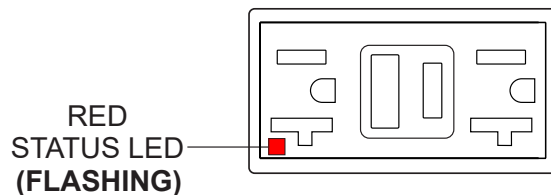

Figure 191. GFCI Receptacle (Red Flashing LED)
6. If the **status LED** (Figure 191) is **flashing (RED)**, **DO NOT** use the GFCI receptacle. Replace it immediately.